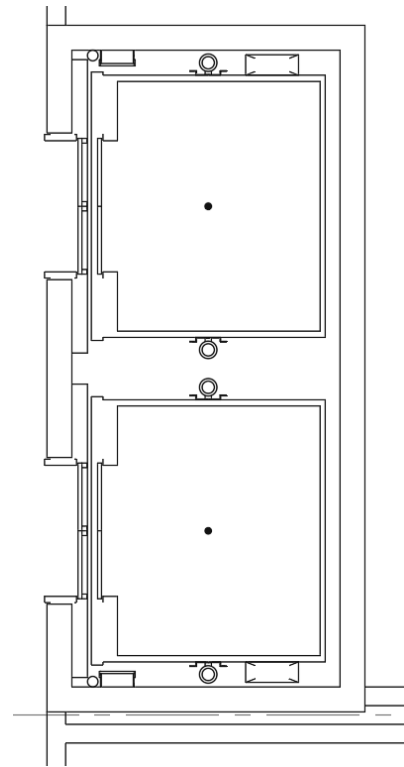

FIGURE 4-3.14
27. Use the **Mirror** command to copy a mirror image of the elevator car to the opposite side of the shaft (Figure 4-3.14).
28. **Trim** the wall lines and place the jamb lines on **A-wall** layer (not the elevator frame, just the line that closes off the wall); see Figure 4-3.14.
Your elevator should now look like Figure 4-3.14. Several details are drawn, such as the guide rail, the cab door, the floor level door and even the pit ladder.
Many architectural firms have a copy of the major elevator manufacturers' technical catalogs which provide enough information to manually draw everything in Figure 4-3.14. But it is not difficult to see how the Internet can save time when AutoCAD content is available; not all manufacturers provide AutoCAD drawings of their products.